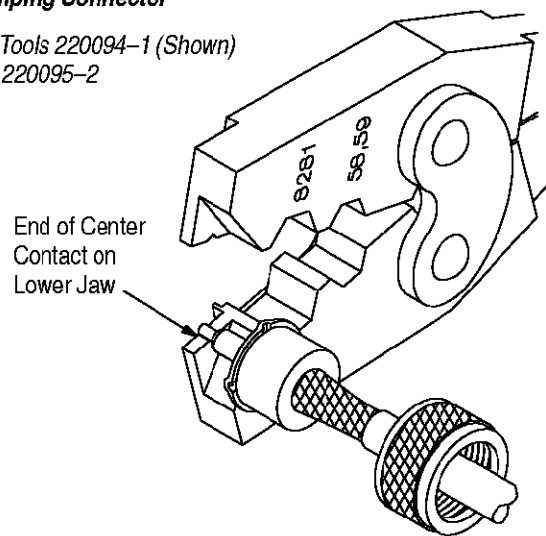

Figure 3
2. Place end of center contact in tool as shown in Figure 3.